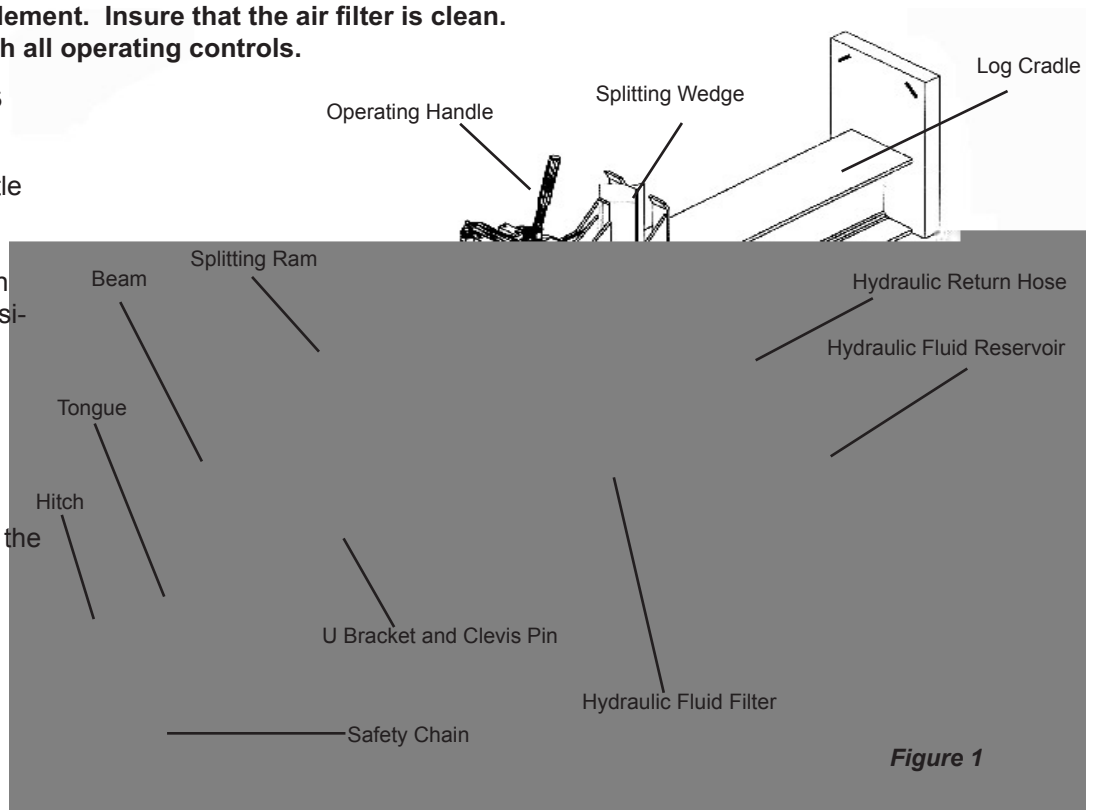

Figure 1
Logs may be split in either a vertical or horizontal position. To place splitter into the vertical position. Remove clevis pin from u-bracket on tongue (*see Figure 1*) and push beam into position. Reattach clevis pin.
- Remove fluid check plug (*See figure 1*).
- Unscrew hydraulic fluid filter (*See figure 1*)